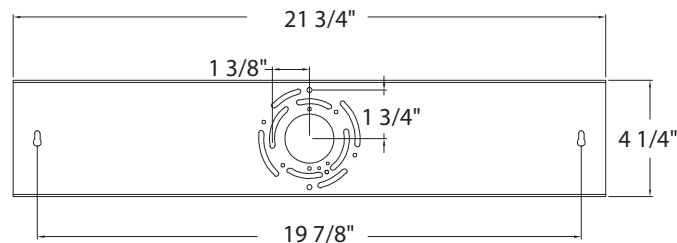

Fig. 2 Wiring
CONNECTING THE WIRES (Fig. 2)
11. Connect the driver's input wires to the junction box wires as shown in Fig. 2 using wire connectors (A) provided. Ensure wire connectors are secure. Connect the fixture's ground wire to the ground in the junction box; this will be either a green wire or a bare copper wire. After fixture is wired to house wires, tuck wires carefully inside the junction box.